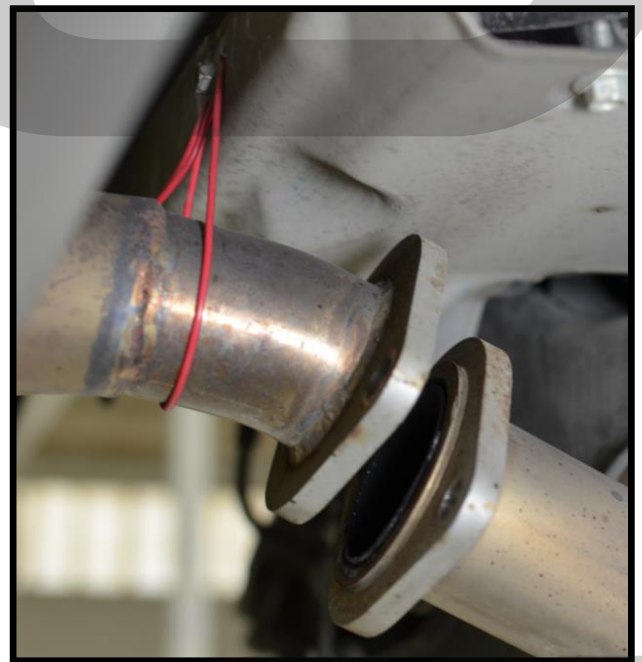

Figure 1g
g) **Disconnect the exhaust muffler section from the exhaust mid-section.** 17mm nuts/bolt if you have the CorkSport Axle-Back exhaust or 14mm nuts if you have the OEM muffler section. If you have the CS Axle-Back you can use some small wire to support the exhaust as shown in **Figure 1g**. If you have the OEM muffler then it will support itself from the four rubber hangers.